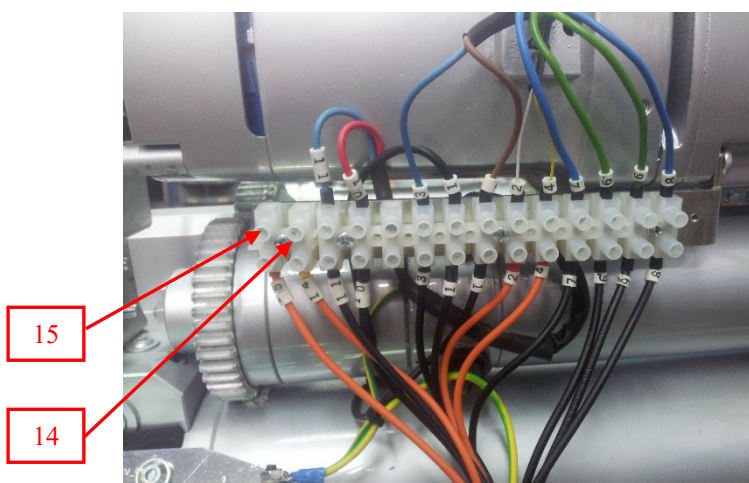

Figure 1.5
- 1.1.10 Proceed to disconnect the cables marked with numbers 14–15 on the terminal board, (see figure 1.5).